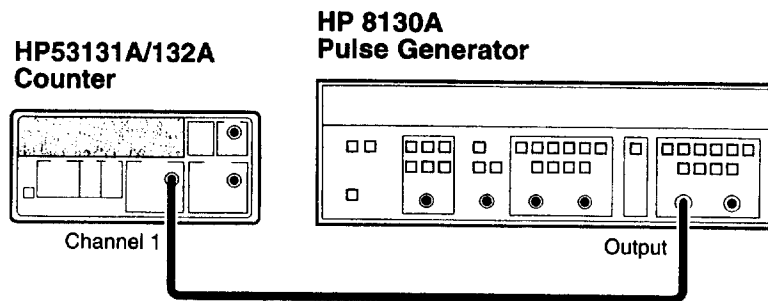

Figure 2-3. Calibration Setup for CAL: TI QUIK?
- 3 Connect the **HP 8130A Pulse Generator** output to **Channel 1** of the Counter as shown in **Figure 2-3**.